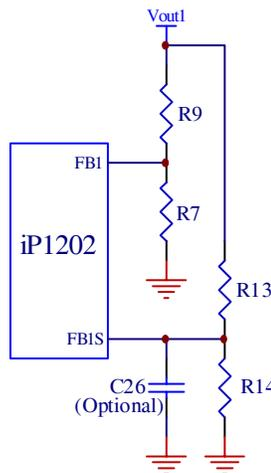

Fig. 17: Typical scheme for output voltage setting
Both outputs of the iP1202 will shut down if either one of the outputs experiences a voltage in the range of 115% of V_{OUT} . The overvoltage sense pins FB1s and FB2s are connected to the output through voltage dividers, R_{13} and R_{14} (Fig. 17), and the trip setpoints are programmed according to equation (1). Separate overvoltage sense pins FB1s and FB2s are provided to protect the power supply output if for some reason the main feedback loop is lost (for instance, loss of feedback resistors). An optional 100pF capacitor (C26) is used for delay and filtering purposes. If this redundancy is not required and if Type II control loop compensation scheme is utilized, FB1s and FB2s pins can be connected to FB1 and FB2 pins respectively.
When selecting output capacitors, it is important to consider the overshoot performance of the power supply. If the amount of capacitance is not adequate, then, when unloading the output, the magnitude of the overshoot due to stored inductor energy, and depending on the speed of the response of the control loop, can exceed the overvoltage trip threshold of the iP1202 and can cause undesirable shutdown of the output. The magnitude of the overshoot should be kept below 1.125 V_{OUT} . To prevent the overshoot from tripping the output a delay can be added by installing capacitor C26 as shown in Fig.17.